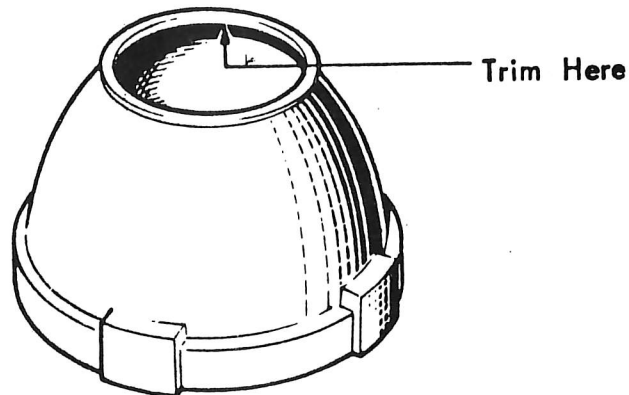

Fig. 9. GEARCHANGE LEVER CAP
4. Check that movement of the gear lever is not impeded by the lip at the top of the nylon gearchange lever cap (see Fig.9), thus preventing full engagement of the gears. If necessary, trim this lip with a knife to obtain sufficient clearance.